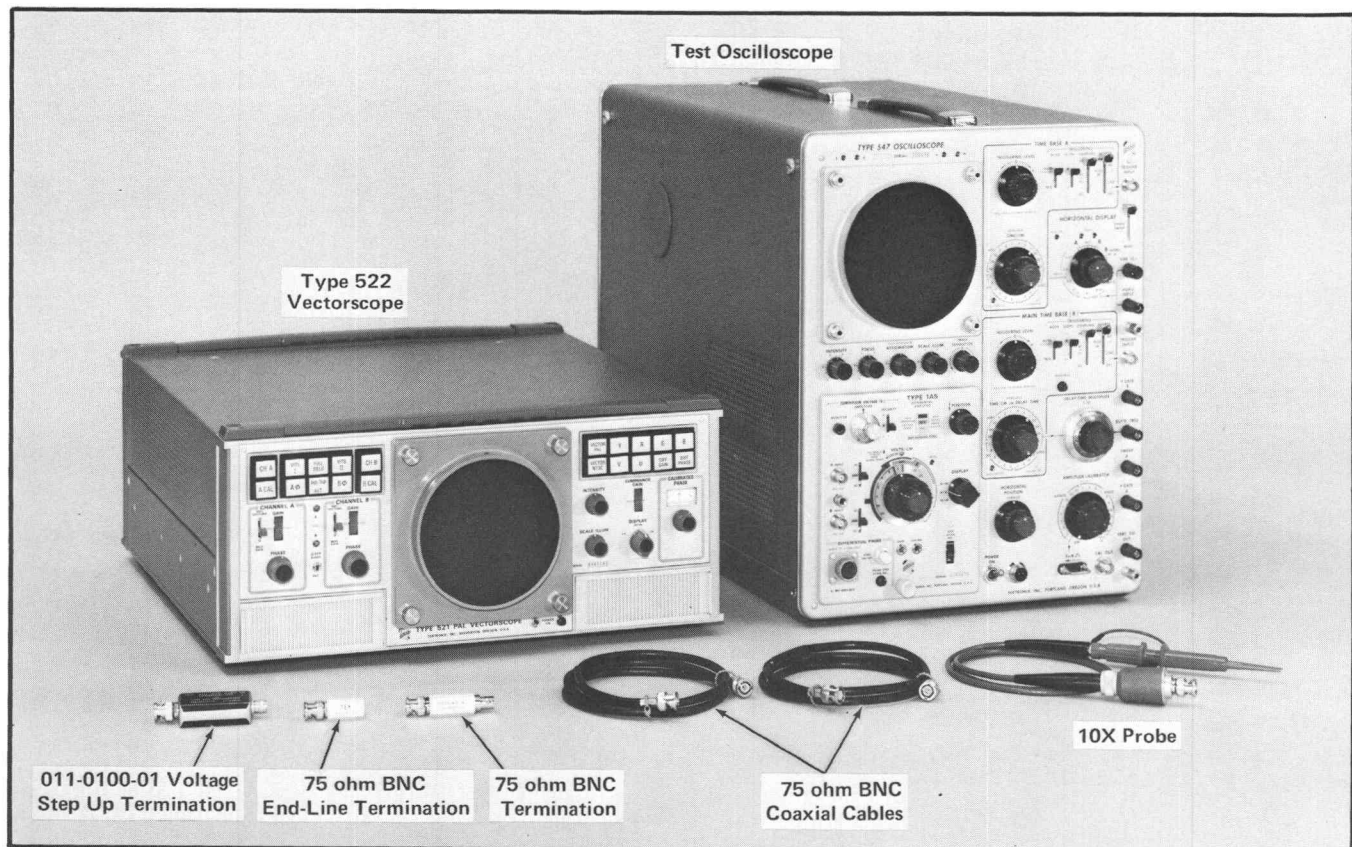

Fig. 5-13. Test equipment required for steps 12 through 18.
①
a. Test equipment is shown in Fig. 5-13. To determine the Type 142 and test oscilloscope control settings, first refer to the partial list that precedes this step and then for the remaining controls, refer to the list that follows Fig. 5-1.